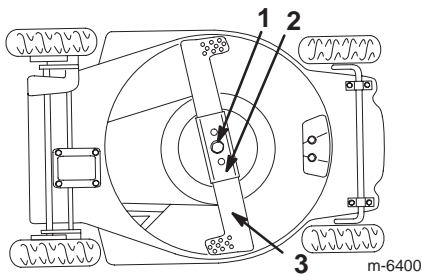

Figure 25
4. Tip the lawn mower on its **left** side (Fig. 25).
2. Remove the blade bolt, the lock washer, the blade, and the blade stiffener (Fig. 25).